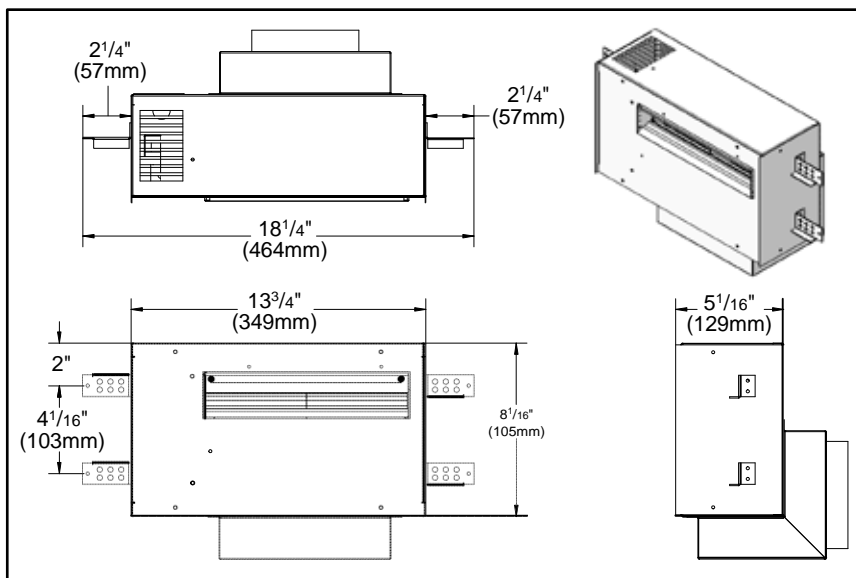
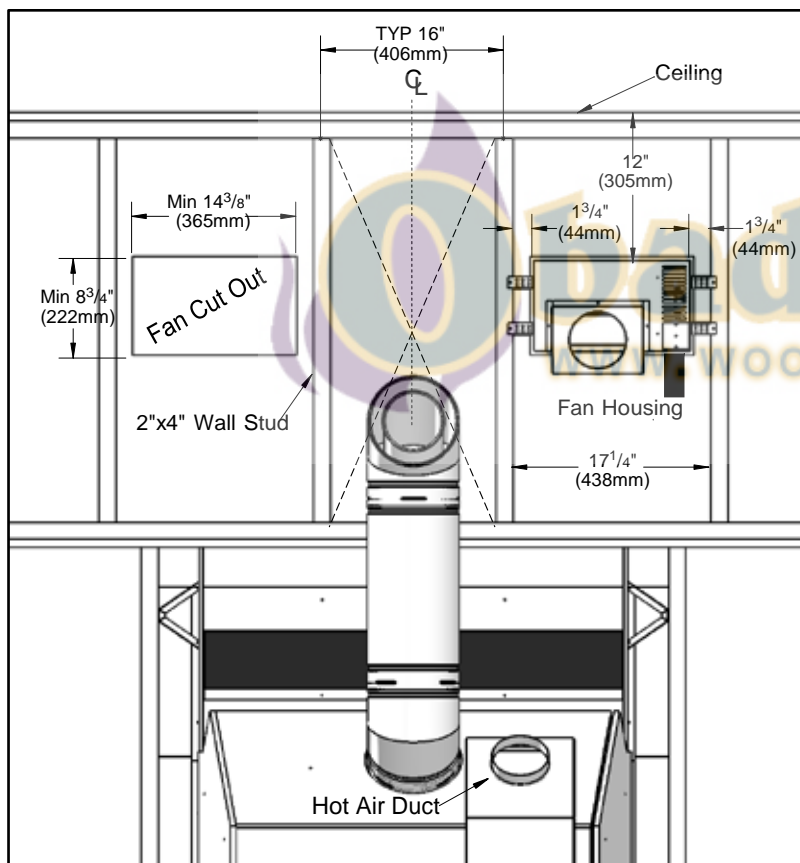

Figure 5: Fan housing overall dimensions.
Figure 6: Minimum Installation Clearances for Fan.
4. With the “Figure 5: Fan housing overall Dimensions.” and “Figure 6: Minimum Installation Clearances for Fan.”